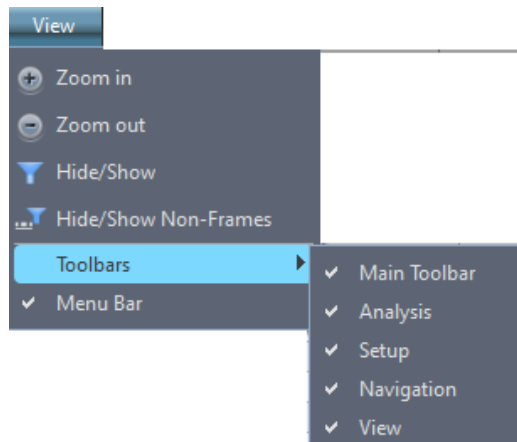

Figure 2.18: View Menu Option.
- ❑ **Toolbars**-Allows you to customize the toolbar display (see Figure 2.18 on page 48).